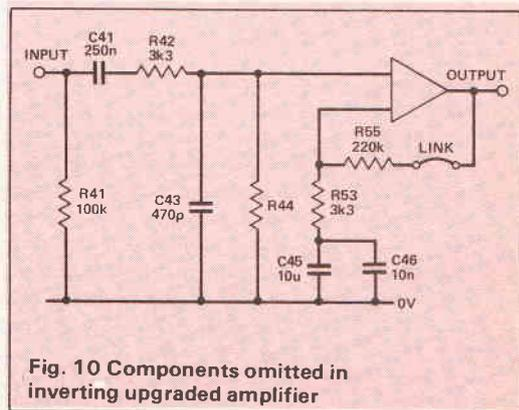

Fig. 10 Components omitted in inverting upgraded amplifier
- Build exactly as the non-inverting Virtuoso, but leave out all the parts marked in Fig. 10.